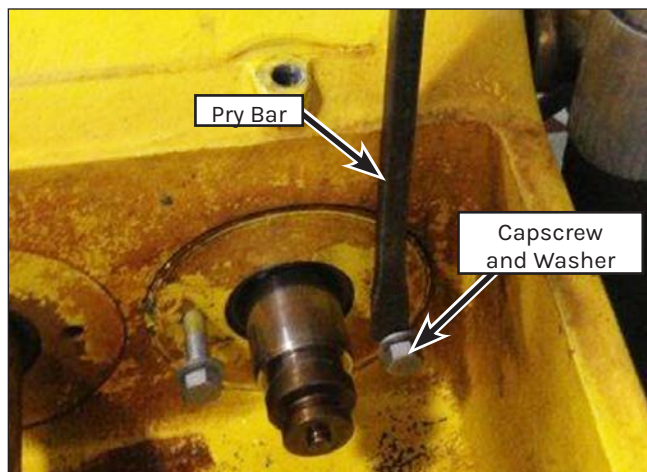

Figure 148: Seal Plate Removal.
11. Install two 1/2"-13 UNC capscrews (Figure 148) into the seal plate.